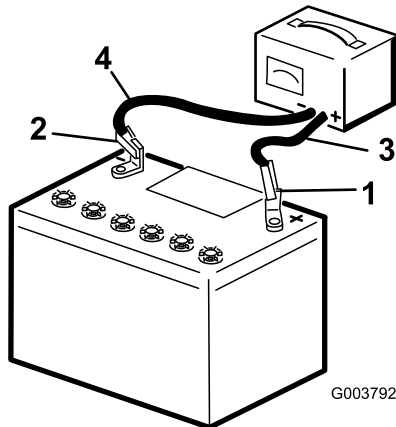

Figure 61
2. Charge the battery for 4 to 8 hours at a rate of 3 to 4 A (Figure 61). Do not overcharge the battery.
3. When the battery is fully charged, unplug the charger from the electrical outlet, then disconnect the charger leads from the battery posts (Figure 61).